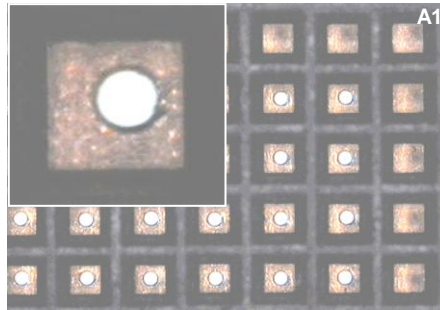
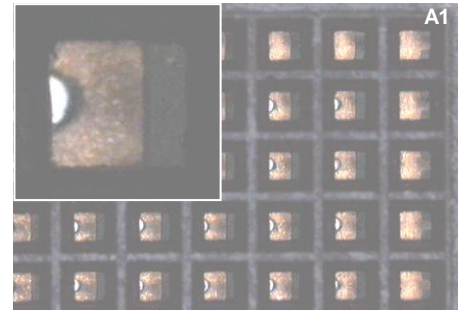
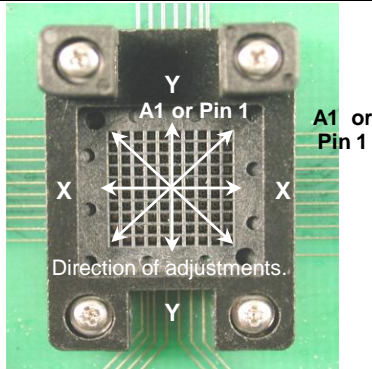

FIGURE 2A - Alignment gauge aligned properly with PCB conductor pads (PCB conductor pads centered in gauge holes).
FIGURE 2B - Alignment gauge shifted to right or PCB conductor pads shifted to left (PCB conductor pads off-center in gauge holes).
FIGURE 3 - Adjust the alignment gauge on the PC board until the best position is determined.
3.0	<p>While viewing through the microscope, check the position of the alignment gauge holes with the position of the PC board conductor pads.</p> <p>NOTE: Although the PC board holes for the socket mounting screws and/or plastic alignment posts are designed for a tight fit, the alignment gauge may still move around on the board in some instances. If this is the case, move the alignment gauge towards position "A1" and compare the alignment with FIGURE 2A and FIGURE 2B.</p>
4.0	If the alignment gauge holes align with the PC board conductor pads, FIGURE 2A, then note this position and skip to Step #7.0.
5.0	If the alignment gauge holes DO NOT align with the PC board conductor pads, FIGURE 2B, then continue with Step #6.0.
6.0	Move the alignment gauge around on the PC board, from corner to corner and in the X and Y axes, FIGURE 3, until the best alignment is determined (closest to FIGURE 2A) and note that position with reference to position "A1 or Pin 1". NOTE: Please refer to the LIC catalog drawing for the particular socket that you may be using for the correct location of position "A1 or Pin 1", as position "A1 or Pin 1" varies from socket to socket.